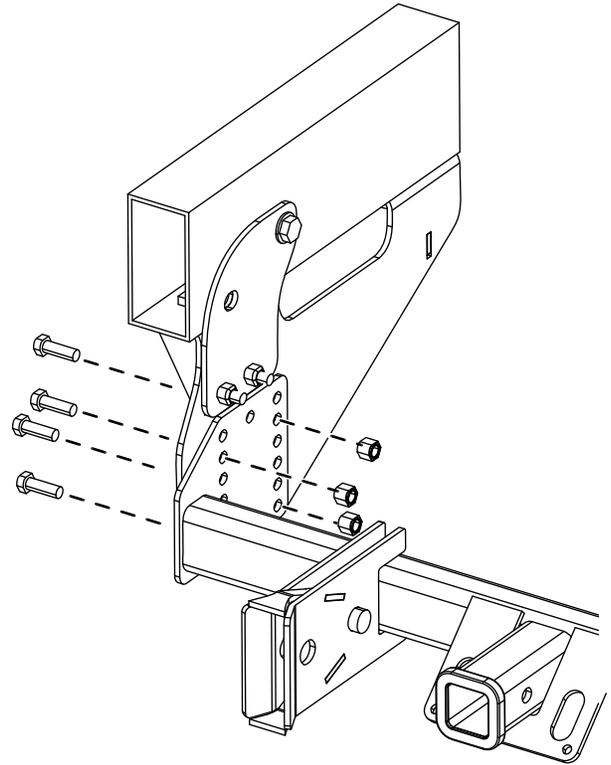

Figure 11
8. Loosely secure the pushbeam to the sideplates using 8 bolts (1/2 inch) and nylon locknuts (1/2 inch) as shown in Figure 11.